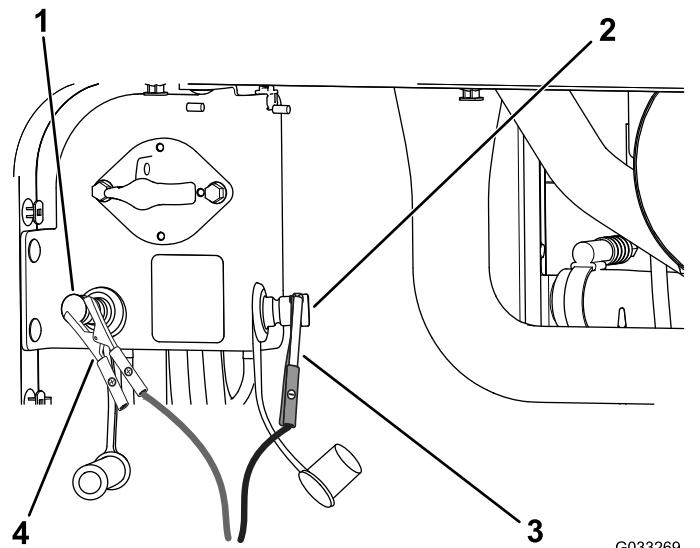

Figure 108
4. Connect the positive lead of the battery charger to the positive jump post (Figure 108).
5. Connect the negative lead of the battery charger to the negative jump post (Figure 108).
7. When the batteries are fully charged, unplug the charger from the electrical source, then disconnect the charger leads from the jump posts (Figure 108).